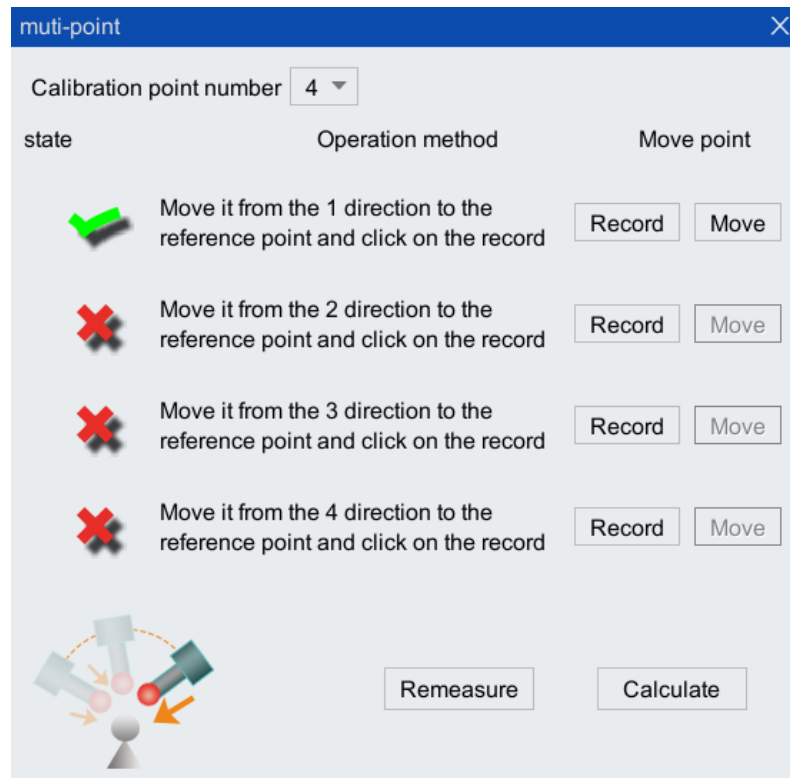
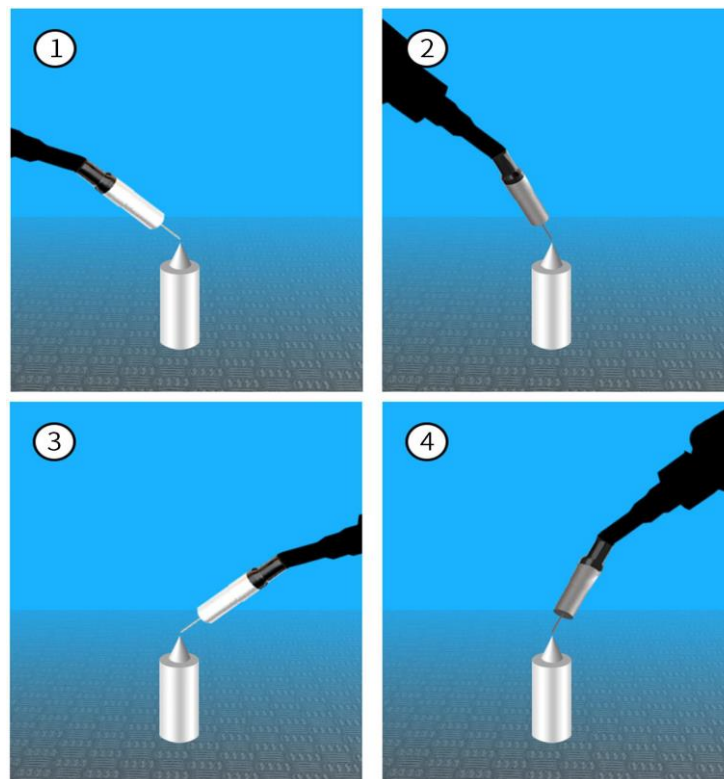

Figure 8-10 The interface status of 1 point successfully calibrated
Figure 8-11 The robot teaches four point pose positions
Step3. Perform calibration according to the operation instructions in the figure. After each point is successfully calibrated, the in front will become , as shown in Figure 8-10 and Figure 8-11.